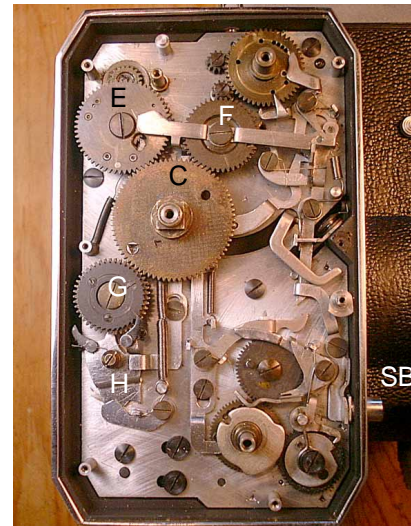
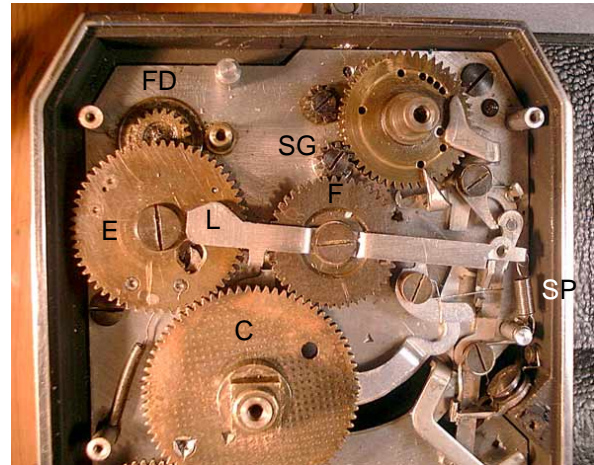
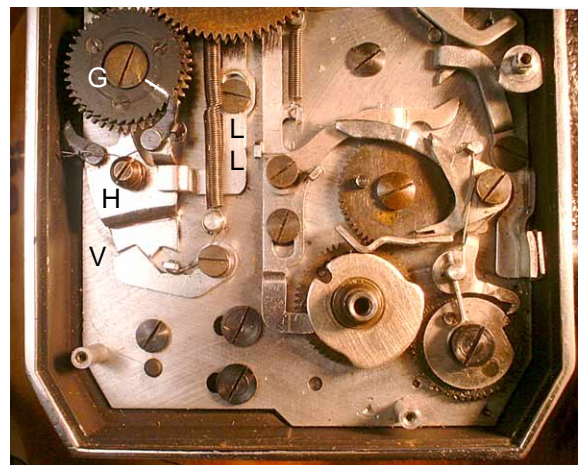
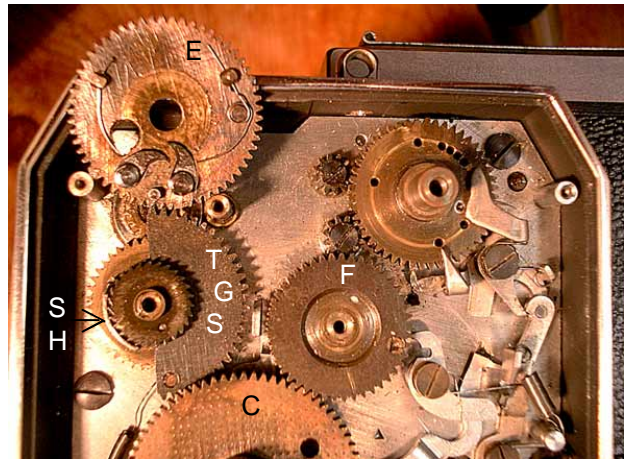

Fig. 2.
Fig. 3.
Fig. 4.
Fig. 5.
Figure 2, shows the same gears with the knobs removed. Now an intermediate gear (E) between the winding gear (C) and that drives the film counting dial, can be seen. Also, a double intermediate gear (F) between the winding gear and the film speed gear (B). Below and to the left of the winding gear is a gear (G) and a lower ratchet mechanism (H), that stops double exposures. This is all in the uncocked position.
*General:-* If retiming of the gears becomes necessary, begin by removing the winding gear (C), the counter dial (A) and the gear (E) between the dial and the winding gear. Remove the gear (G) with the double ratchet just below and slightly behind the winding gear. Replace the speed dial (B) and set it to Bulb. Turn the dial counter clockwise (there is an arrow indicating the correct direction) until the mirror is lowered into viewing position and the shutter is cocked. Just below the speed dial is a horizontal bar (L. Fig. 3) which locks the shutter-releasing linkages. Push the front of this bar up enough so that the shutter release button can be pushed (Fig 2. SB).
On the underside of the winding gear (C) is a positioning (stud) pin (Fig 3, C. See triangular mark on its the bottom left). With the shutter in released position, set the winding gear on its post with that bottom stud counter clockwise as far as it will go (against a substantial stud in the underlying mechanism plate) - as in Fig. 3. At this position, mesh the winding gear with the intermediate gear (E) between the winding gear and the speed dial gear. You can now set the winding key on its square post and wind, and release the shutter.
Replace the ratchet gear (G. Fig. 2) which meshes with the winding gear at 7 o'clock. Just below this gear is a bracket (H. Fig. 4) which is positioned by two spring loaded toggles. That bracket has an upward pointing curved arm (not shown - hidden by gear G). When replacing the ratchet gear, its position must be such that the pin on its lower side when rotated to maximum counter clockwise, strikes the upper end of the bracket arm, causing it to pivot to the right. When this happens the left ratchet will engage the bottom teeth on the gear and prevent further motion of the winding gear when it returns to rest - until the shutter is released. More on this below.
Before replacing the gear it is advisable to scribe the position of the lower pin on the upper surface (see mark on G in Fig. 4)
If it doesn't turn far enough on cocking, the pin on its bottom side will not pivot the bracket to the right. Then the right ratchet toggle will not disengage, and the winding gear cannot return to the rest position. On the other hand, if it turns too far it will engage the left and lower ratchet toggle before the shutter and mirror are fully wound. Again, the meshing of all the gears must be very exact. One tooth can mean the difference between the mechanism working properly, or not at all. In the uncocked position, it is advised to position the gear with its pin very close to the right hand ratchet as shown by the mark in Fig 4, before beginning precise adjustment. More about this all later.
*Counter gear:-* timing of the counter gear is the most difficult of all. It is here that many problems occur, since the force of the winding gear on the film take-up roller drive gear (FD, seen at 12 o'clock under the counter intermediate gear (E, Fig. 2) has caused wear. If there is any spalling (fraying) of the gear teeth, these should be smoothed off with very fine abrasive paper and polished.
Fig. 5, shows the gear underneath the intermediate gear (E) which has an upper ratchet gear, a thin gear segment (TGS), and a lower intermediate gear that drives the film take-up roller drive gear (FD. Fig 3) On the side opposite of the teeth of the thin gear segment is a partial curved raised extension about 3/8" long, which comes above the teeth of the upper ratchet gear. This is referred to as the segment hub (SH). On the bottom of the intermediate gear (E - shown upside down in Fig. 5)), there are two ratchet toggles.
If you have the gear positioned properly, the other toggle on the bottom side will be seen sticking out from under the gear at 9 o'clock. With the prick, reach underneath the intermediate gear and turn the thin gear segment (TGS) so that the cutout edges are facing straight up and down and the teeth are facing toward the right (as in Fig. 5). While holding the segment in this position, place the counter dial on the post with numeral 4 slightly past 12 o'clock. On the underside of the counter dial, and positioned between numerals 3 and 4, is a stop pin which, when the dial is turned counter clockwise, will come to rest against the post under numeral 4. This post is fastened into the underlying mechanism plate. With the gear segment in the above position, lower the dial into position, meshing the gear on its bottom side with the gear segment and the film take-up drive gear. Notice the outside of the counter dial – its edge has shallow V's cut between each number, forming a cam. The bar (Fig 2, L) mentioned before (which locks the release linkage) is controlled by this counter dial cam. The follower on the left end of the bar fits into the V's in the dial and leaves the release linkage in the release positions, except when the last frame has been exposed. Then the follower drops into the deeper V between the 9 and 10 numerals and locks the release linkage at the other end.
*Adjustment of the Anti-Double exposure gear* (Fig 4.). See Fig 4. This gear (G) and its double ratchet toggle is operated by the winding gear. As the winding gear is turned clockwise to advance the film and cock the shutter, the gear (G) turns counter clockwise. The right ratchet stops the winding gear from being turned counter clockwise before a full cocking sequence is completed. As gear G turns, the pin on the underside engages the curved arm on the upper part of the toggle (not shown). This moves the toggle to the right and disengages the ratchet on the right and engages the left ratchet on the underside set of teeth as the winding knob reaches its full cocking motion clockwise. When the winding knob is then released and springs back to its original position, this disallows any further turning of the winding knob clockwise, hence stopping further film advance. The toggle is held in either of these two positions by V-shaped notches and a ratchet below (V). When the shutter is released, a long lever (LL, Fig. 4) lifts the double ratchet toggle up and to the left into its winding position to allow new film advance. That long lever is moved by a pin under the double intermediate gear (F. Fig. 3) between the winding gear and the shutter speed gear.
To see the upper end of that long lever the film counter lever (L, Fig 3) will need to be removed. Take care to replace the spring (SP). The gear F is double. The upper one has a lower pin that contacts a similar one on the bottom gear and these drive the lower gear that meshes with the small shutter gear (SG), which can be seen between the shutter speed gear and the double intermediate gear (Fig. 3).
Now the problem is that the underneath pin on the bottom gear must move the long lever at the end of the shutter release sequence. That is, the double intermediate gears move clockwise and that lower pin must contact the long lever and move it up enough so that its L-shaped lower end moves the double ratchet toggle (H. Fig. 4) to the left. If it does not, then gear (G) will jam the winding mechanism. If so, the lower intermediate gear (F) must be lifted and rotated clockwise one tooth (or more).